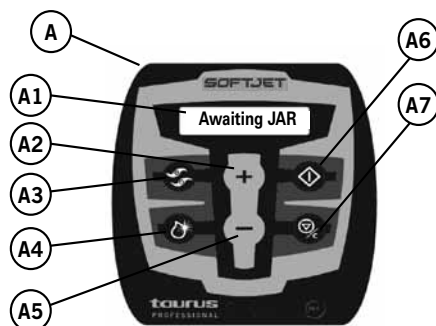

Fig 4
- The message "Awaiting JAR" will appear in the screen (Fig. 4). For safety reasons, the machine will not function if the jar is not in place.